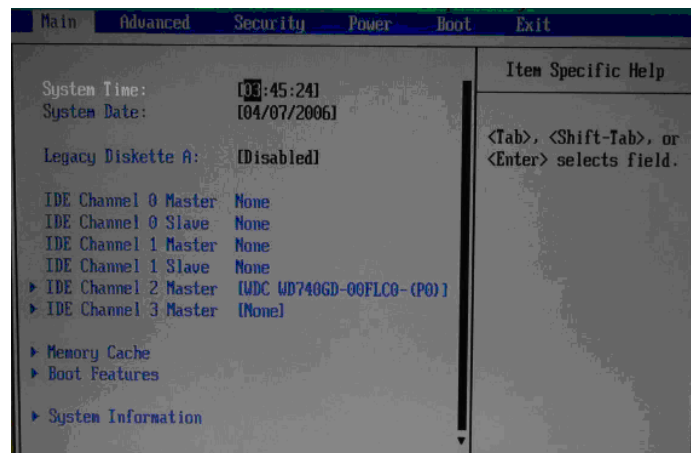

Figure 1-14. Setup
1. Boot the PC and enter the BIOS by pressing the **F2** key as directed by the boot-up sequence. The main "Phoenix BIOS Setup Utility" screen is displayed (Figure 1-14).